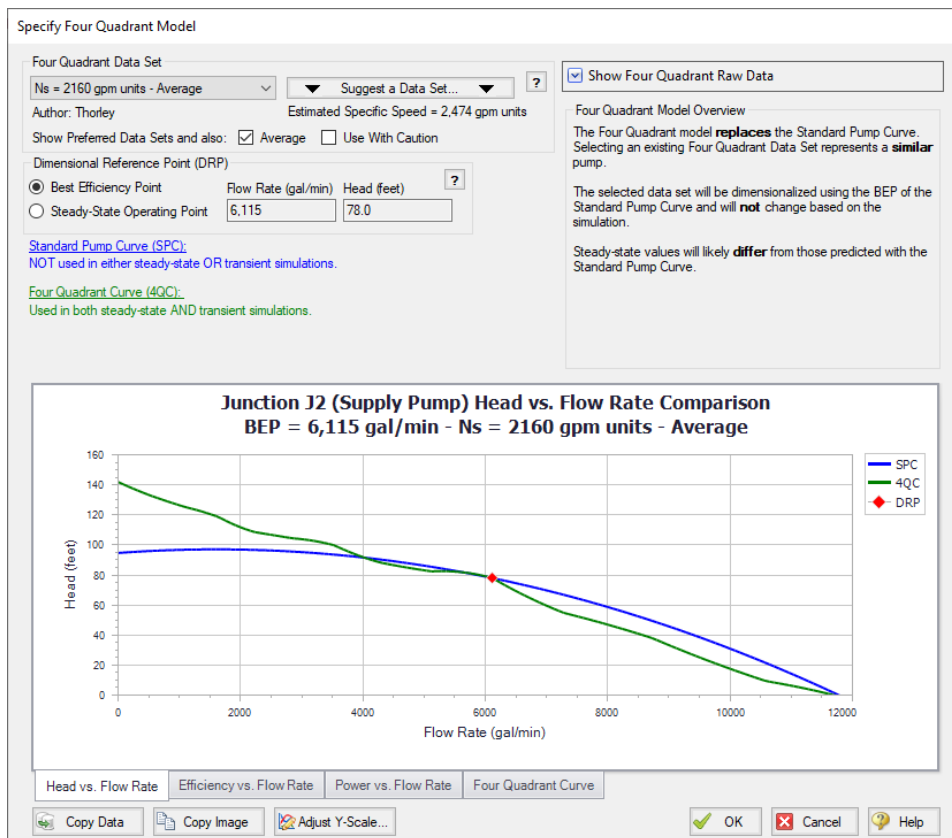
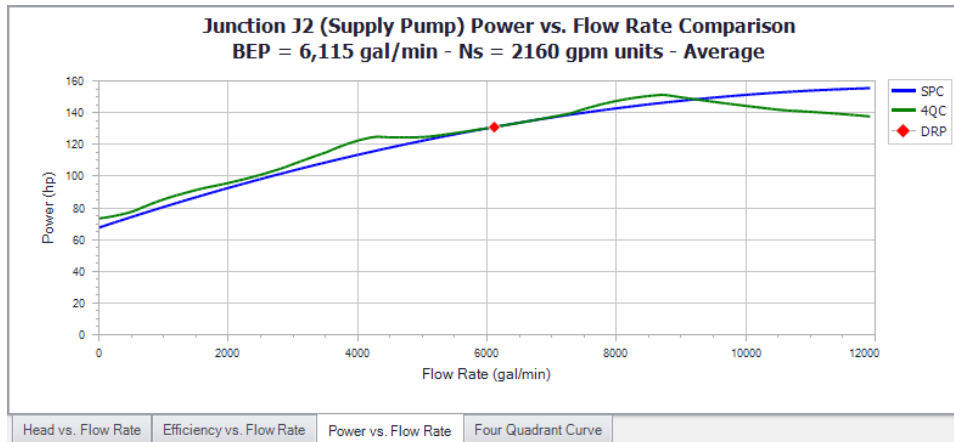

Figure 7: Specify Four Quadrant window showing the Head vs Flow data for the Ns = 2,160 data set dimensionalized using the BEP
Figure 8: Power vs Flow graph from the Specify Four Quadrant window for the $N_s = 2,160$ gpm units data set dimensionalized using the BEP
1. In the current Four Quadrant Curve Scenario check that BEP is selected for the DRP (dimensional reference point). Note that the head, efficiency, and power curves versus flow can be seen plotted against the Standard Pump Curve (referred to as the manufacturer's curve for this example) at the bottom of this window, as shown below for head in Figure 7 and power in Figure 8.
Note: The raw data from the graphs shown in the Specify Four Quadrant Model window (Figure 7 and Figure 8) can be copied using the Copy Data button at the bottom of the window to compare this data for all scenarios in Microsoft Excel.
Each individual four quadrant curve can be compared to the manufacturer's curve within the Specify Four Quadrant Model window in Impulse, as was seen above in Figure 7 and Figure 8 for the 2,160 gpm units data set. Each four quadrant curve will intersect the manufacturer's curve at the dimensional reference point, which is shown in red (6,115 gal/min, see Figure 4 BEP). For the head, power, and efficiency curves we will want to check how similar the shapes of the curves are and how close they are to each other. Focus should be given in particular to how well the curves match near the initial and final steady state flow rates, as this will indicate how different those operating points will be.